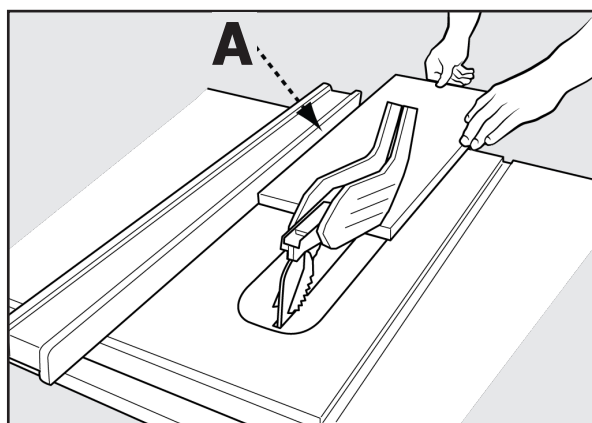

FIGURE 28
8. Hold the workpiece flat on the table and against the fence (A). The workpiece must have a straight edge against the fence and must not be warped, twisted or bowed. See proper hand position in Figure 28.